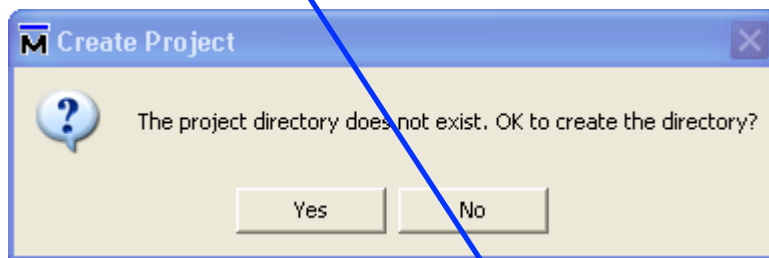

Figure 31. Confirm the establishment of a new directory
3. Then the dialog window shown as Figure 31 will appear, which indicates that the project directory does not exist. Click on the **OK** button to create the directory for a new project.